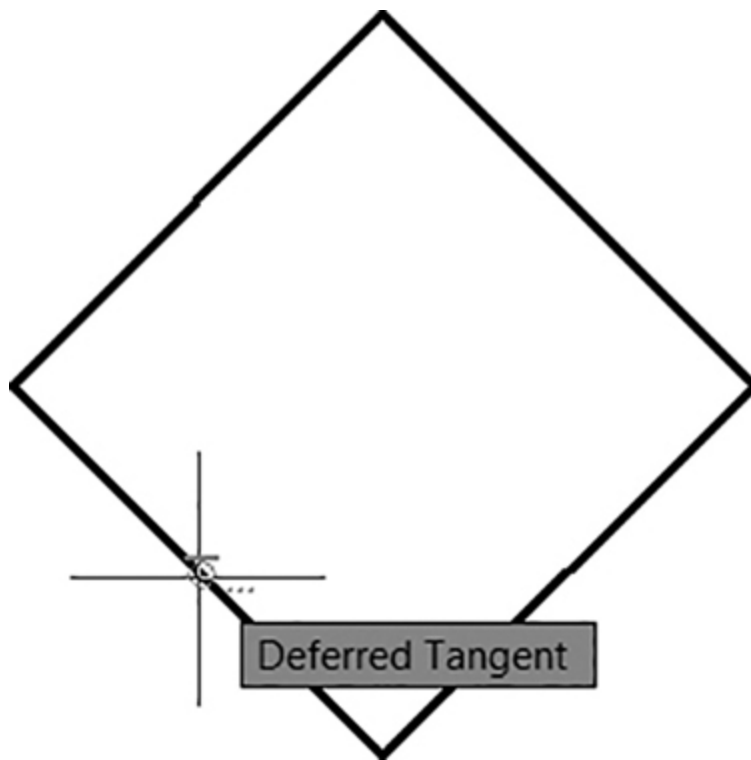

Figure 4-17
- 4 Drag your cursor over the lower-left side of the rotated box (see Figure 4-17). AutoCAD will display the **Deferred Tangent** object snap.